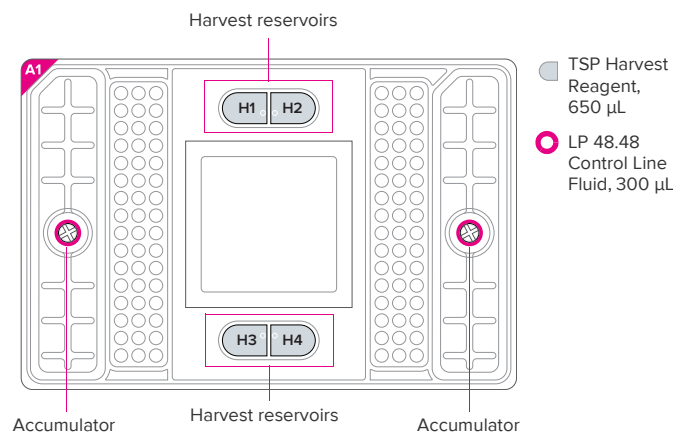

Figure 4. Priming map for the LP 48.48 IFC
- 3 Inject LP 48.48 Control Line Fluid into each accumulator on the IFC (see Figure 4).
- 4 Place the IFC on a flat surface and pipet 650 µL of TSP Harvest Reagent into each of the harvest reservoirs H1, H2, H3, and H4 (see Figure 4).